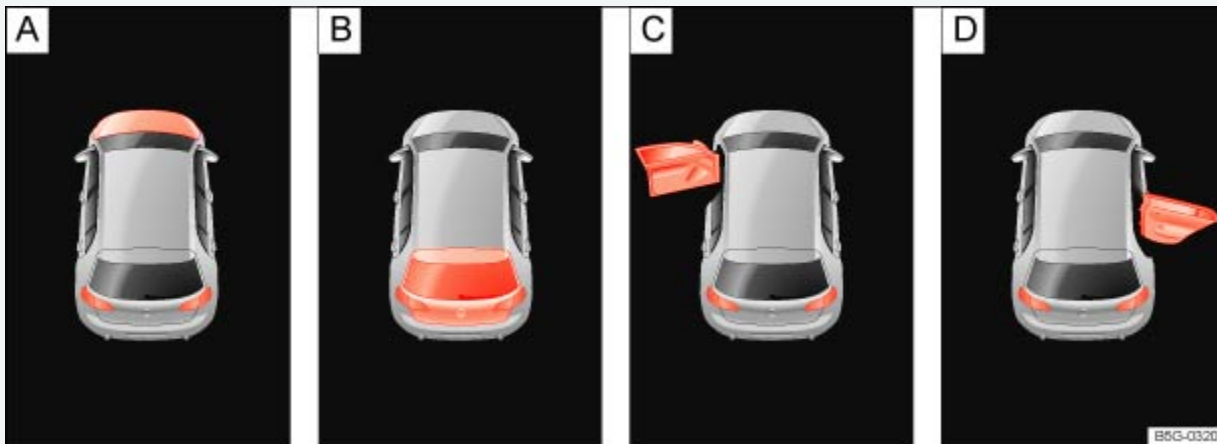

Fig. 13 In the instrument cluster display (color version): : Open engine hood, : Open trunk lid, : Open front driver side door, : Open rear passenger side door.
- Open doors, engine hood, or trunk lid ⇒ Fig. 12 or ⇒ Fig. 13